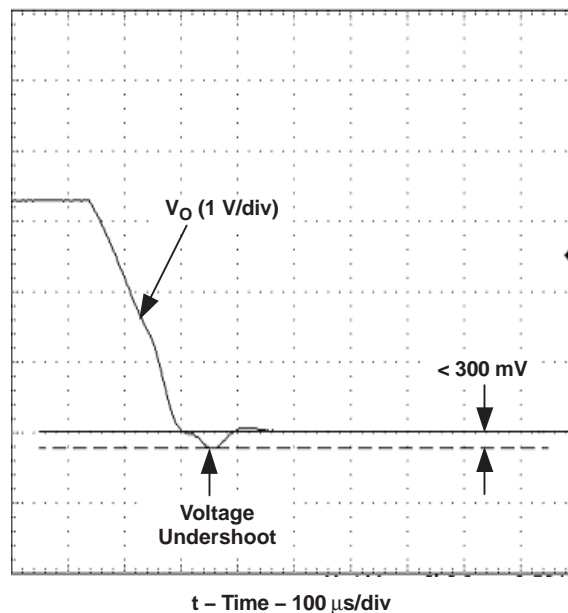

Figure 11. Power Down
**Turn-Off Time:** When a valid input source is removed or if the *Remote On/Off* (pin 2) is used to disable the output, with no external output capacitance, the module powers down within 200  $\mu$ s. Figure 11 shows that, during power down, there is a small undershoot, typically less than 300 mV (or less than a diode drop). If used to supply processor I/O voltages, the low undershoot ensures the parasitic diodes do not conduct current and potentially cause damage to external circuitry.